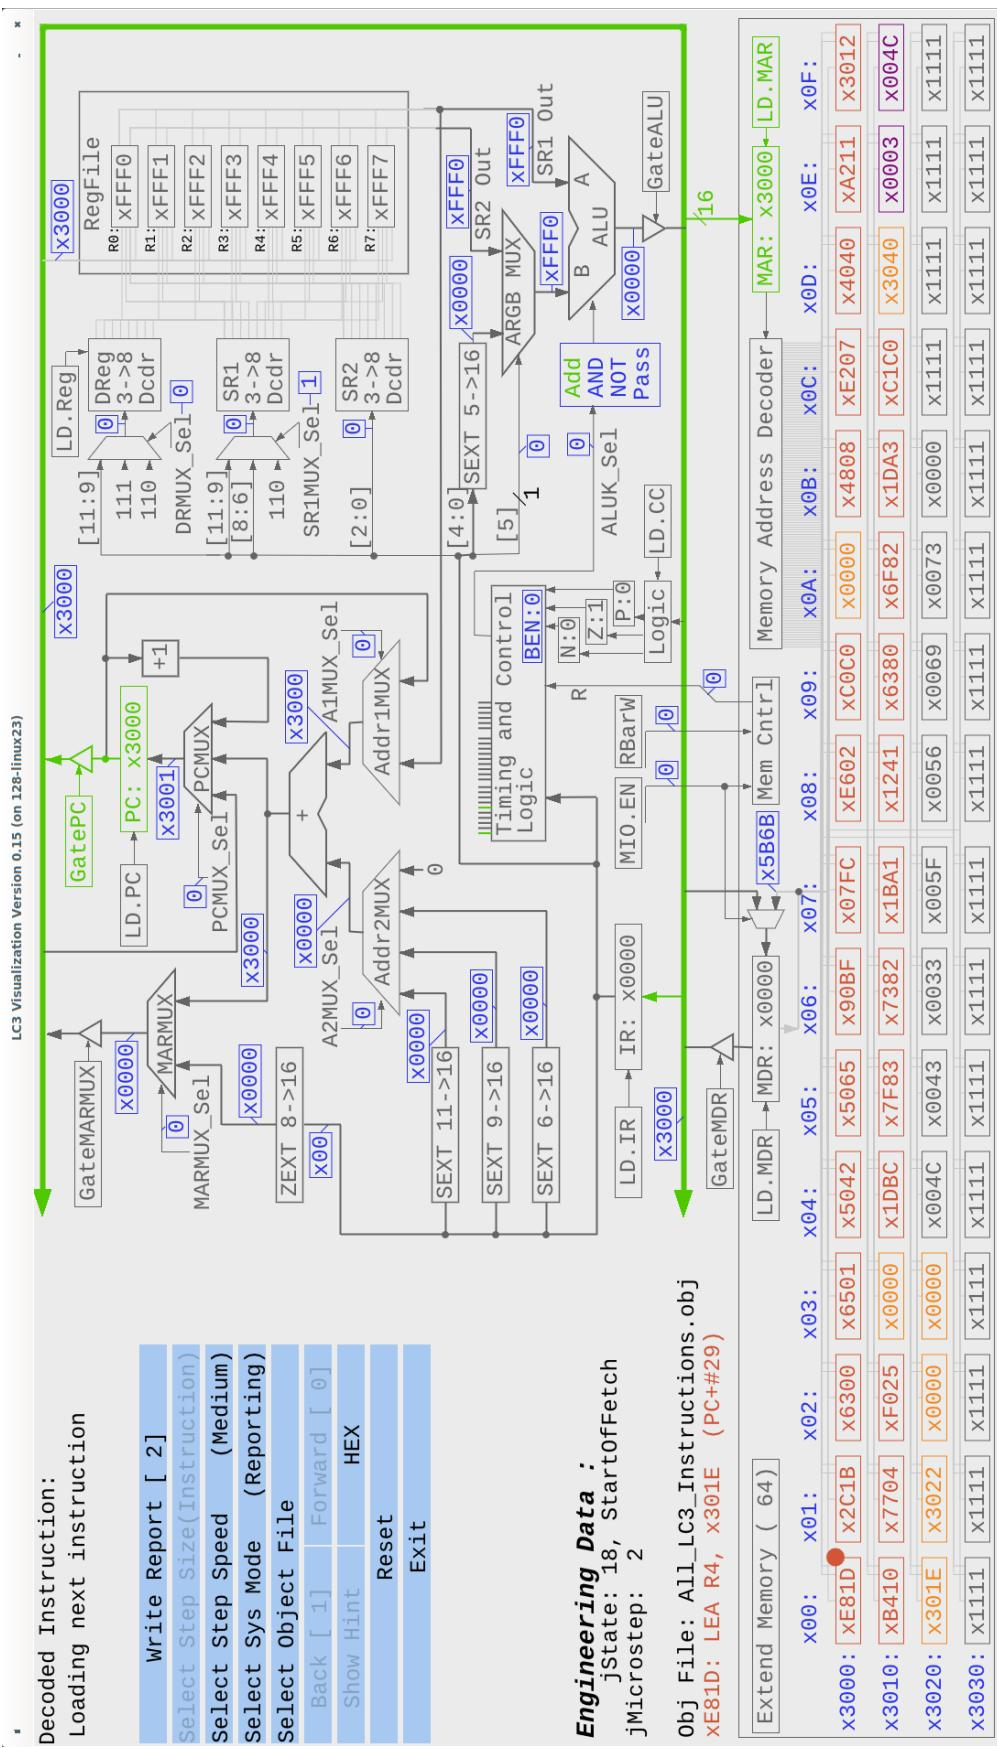

Figure 9: LC3\_Visualization in Reporting mode with GatePC and LD.MAR controls active.
**3.2.1.1 Reporting mode** In Reporting Mode students control instruction execution by activating Gate, Load and Memory Control signals with button clicks. The available controls are listed in table 1. A step of instruction execution is seen in figure 9, where the GatePC and LD.MAR controls are activated.
- The LC3\_Visualization was brought to the configuration of figure 9 by clicking on the GatePC and LD.MAR buttons (in that order !)
Figure 9, above, captures a typical moment during CPU execution, with a Gate, the Main Bus and the Memory Address Register active. Other moments, with other elements active, are captured in figures 6 and 7.